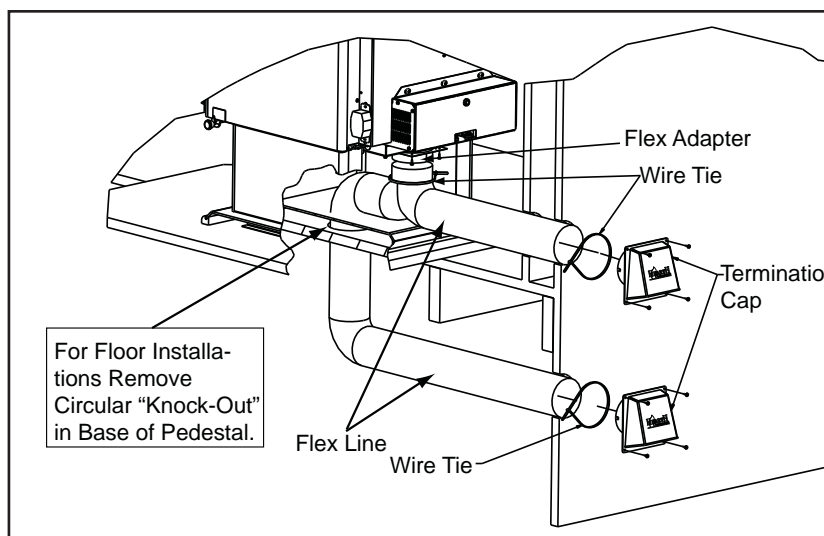
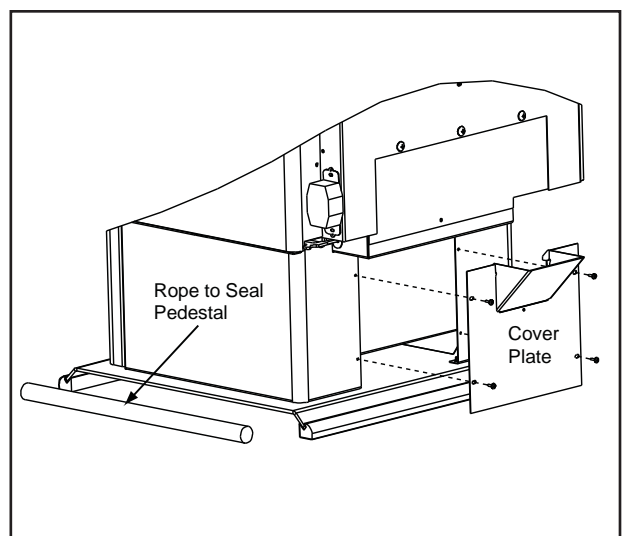

Figure 14.1 - Floor & Rear Installation
Figure 14.2 - Floor Installation Alternative
Included in SRV7033-041: Cover plate and sealing rope (see Floor Installation Alternative below, **Figure 14.2**)
2. Using a #2 Phillips screw driver attach the flex adapter to the stove using 4 screws. **Figure 14.1.**
5. **Floor Installation Alternative:** In some instances you may not be able to install the flex pipe as show in **Figure 14.1.** If that is the case, you will need to order SRV7033-041 which includes a cover plate and sealing rope as shown in **Figure 14.2.** The goal is to seal the pedestal so no room air can leak into the pedestal or cold air infiltration.